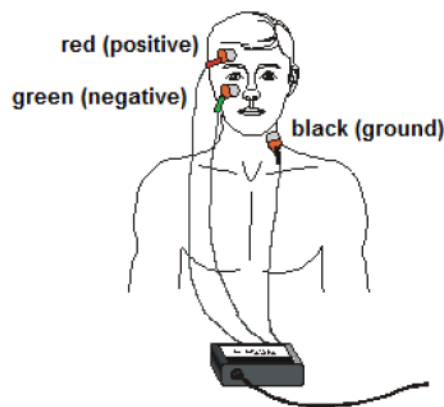

Figure 3
6. Carefully clean the subject's skin with an alcohol wipe and place three fresh electrode tabs on the subject as shown in Figure 3.